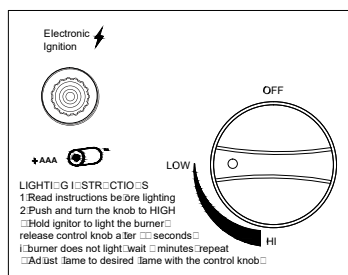

Figure 2
4. Press and turn the control knob counterclockwise to the "low" position to ignite the burner (Figure 2).